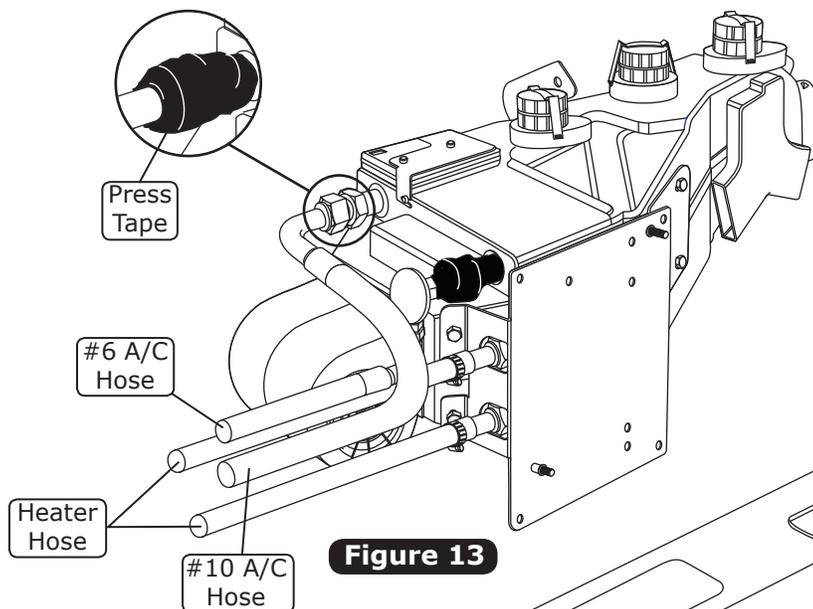
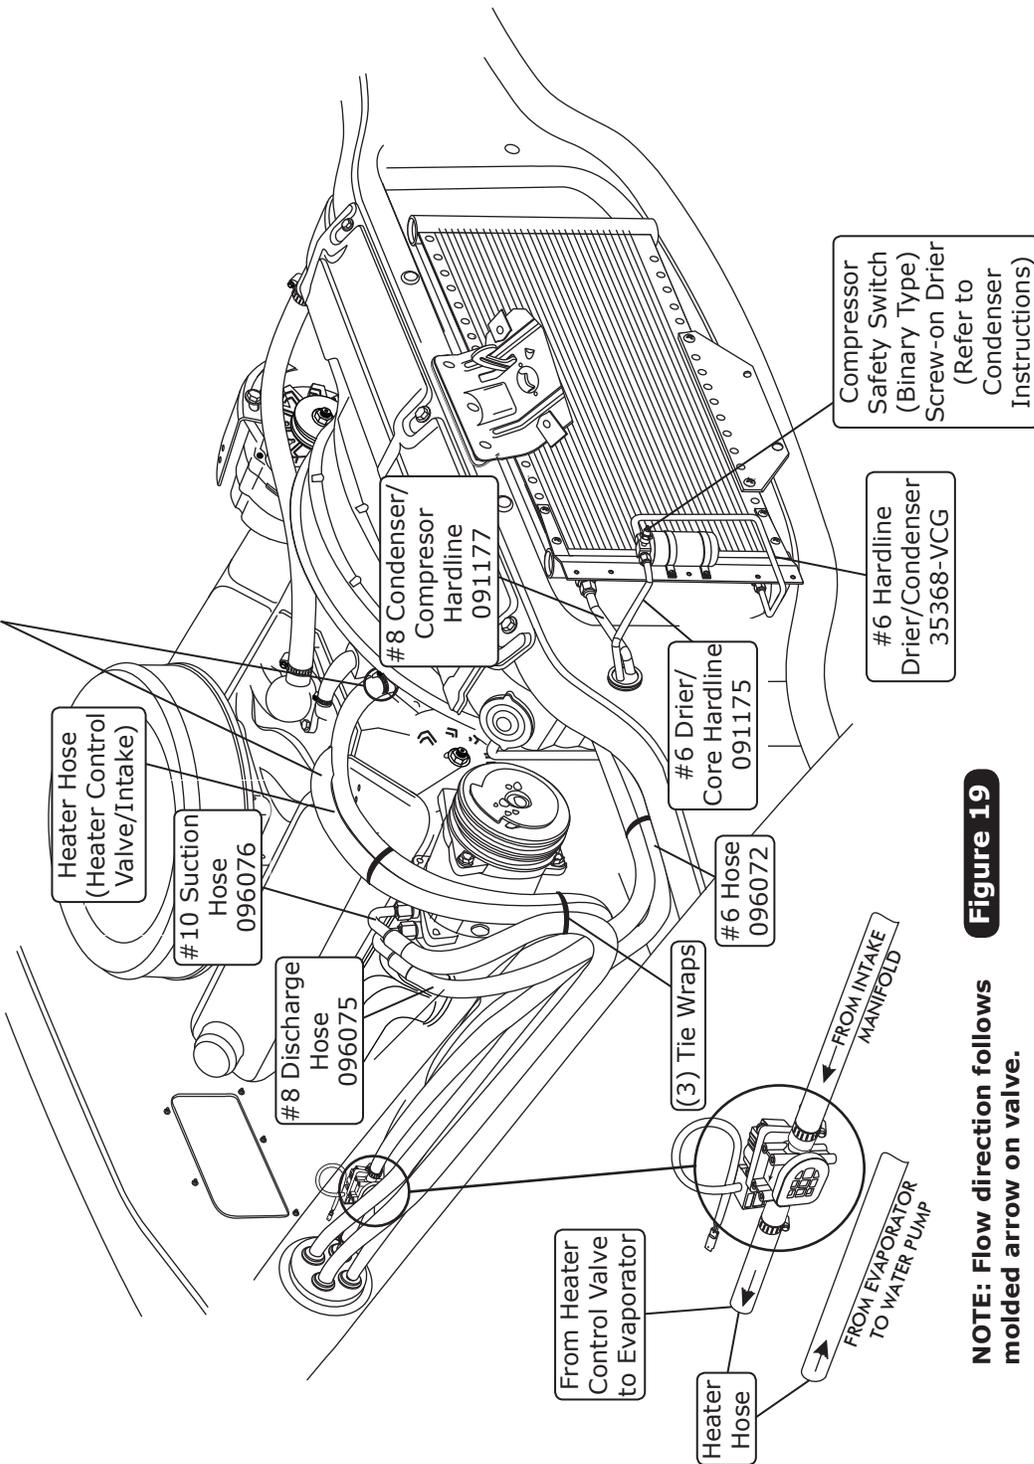
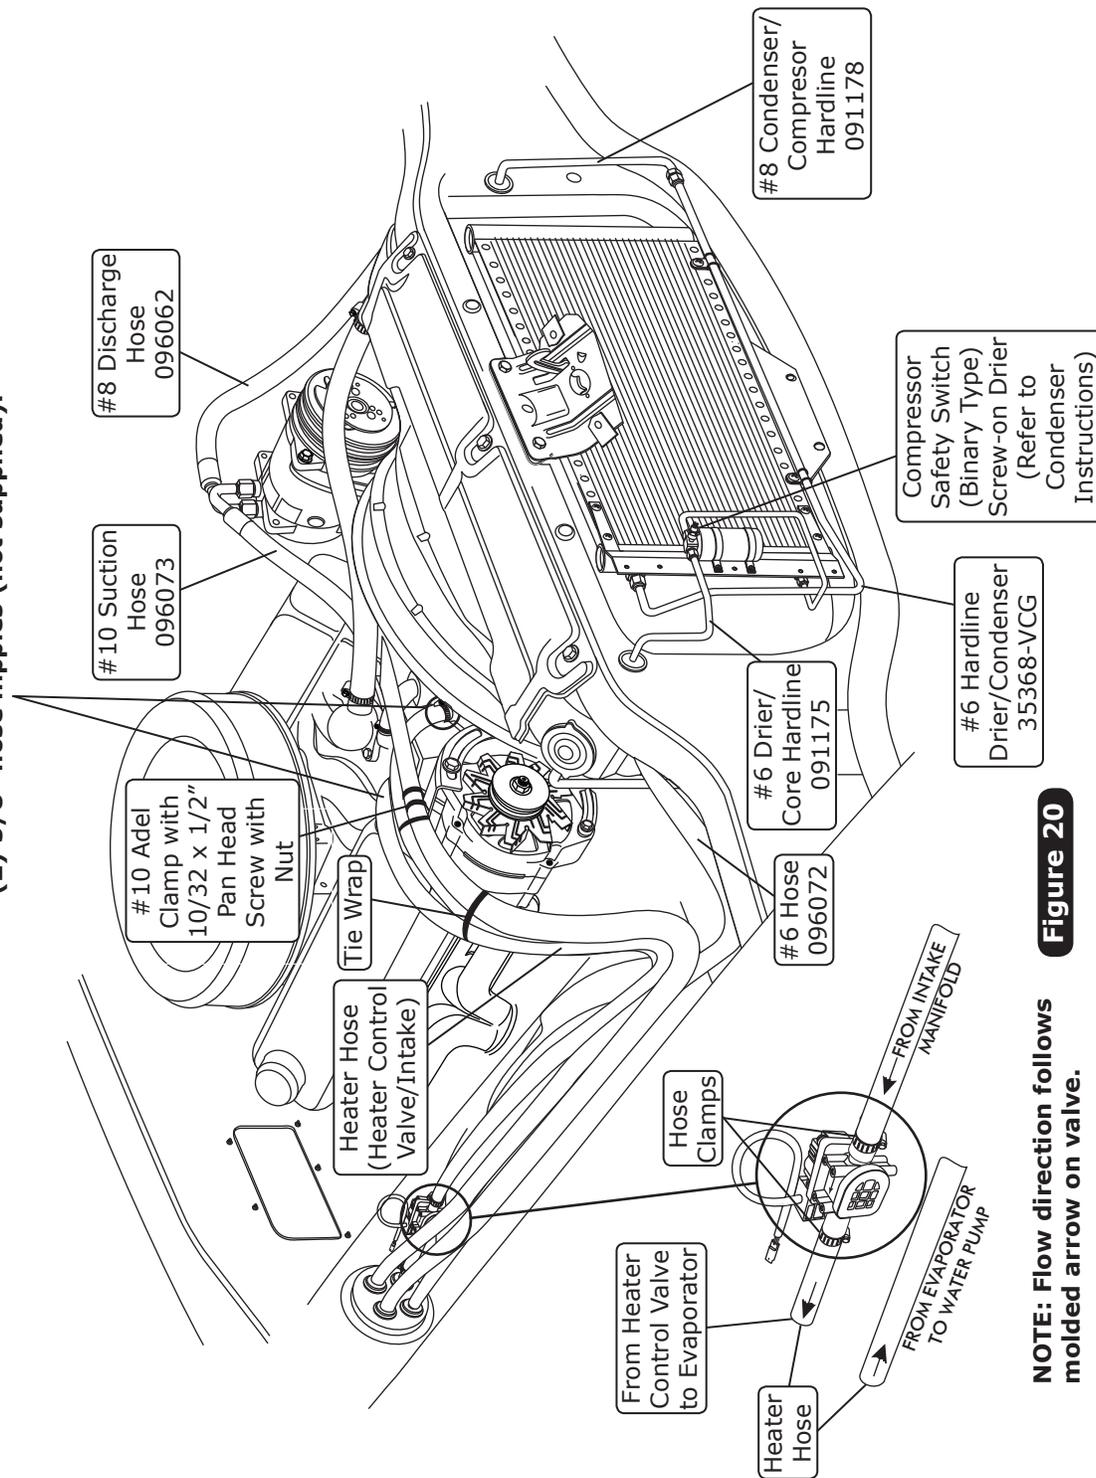

Figure 13
Figure 19
Figure 20
4. Lay the evaporator sub case on the passenger side floorboard. Install the A/C & heater hoses onto the evaporator as shown in Figure 13, Page 13, and hose installation instructions on Page 15. **NOTE: Wrap the #10 fitting connections with press tape (See Figure 13, Page 13).**
1. Locate the #8 compressor A/C hose. Lubricate (2) #8 O-rings (See Figure 18, above) and connect the 135° female fitting with 134a service port to the #8 discharge port on the compressor. Then route the straight female fitting to the #8 condenser hardline coming through the core support (See Figure 19, Page 16, and Figure 20, Page 17). Tighten each fitting connection as shown in Figure 18, above.
2. Locate the #10 compressor A/C hose. Lubricate (2) #10 O-rings (See Figure 18, above) and connect the #10 135° female fitting with 134a service port to the #10 suction port on the compressor. Then route the 90° female fitting to the #10 fitting on the evaporator (See Figure 13, Page 13, Figure 19, Page 16, and Figure 20, Page 17). Tighten each fitting connection as shown in Figure 18, above.
3. Locate the #6 evaporator A/C hose. Lubricate (2) #6 O-rings (See Figure 18, above) and connect the straight female fitting to the #6 hardline coming through the core support from the drier. Then route the 90° female fitting to the #6 fitting on the evaporator (See Figure 13, Page 13, Figure 19, Page 16 and Figure 20, Page 17). Tighten each fitting connection as shown in 18, above.
1. Route a piece of heater hose from the water pump to the top heater fitting of the heater core as shown in Figure 13, Page 13, and Figure 19, below. Secure using hose clamps.
2. Route a piece of heater hose from the intake to the bottom heater fitting of the heater core as shown in Figure 13, Page 13, and Figure 19, below. **NOTE: Install heater control valve in line with intake manifold (pressure side) heater hose. Secure using hose clamps as shown in Figure 19, below. Also note proper flow direction.**
1. Route a piece of heater hose from the water pump to the top heater fitting of the heater core as shown in Figure 13, Page 13, and Figure 20, below. Secure using hose clamps.
2. Route a piece of heater hose from the intake to the bottom heater fitting of the heater core as shown in Figure 13, Page 13, and Figure 20, below. **NOTE: Install heater control valve in line with intake manifold (pressure side) heater hose. Secure using hose clamps as shown in Figure 20, below. Also note proper flow direction.**